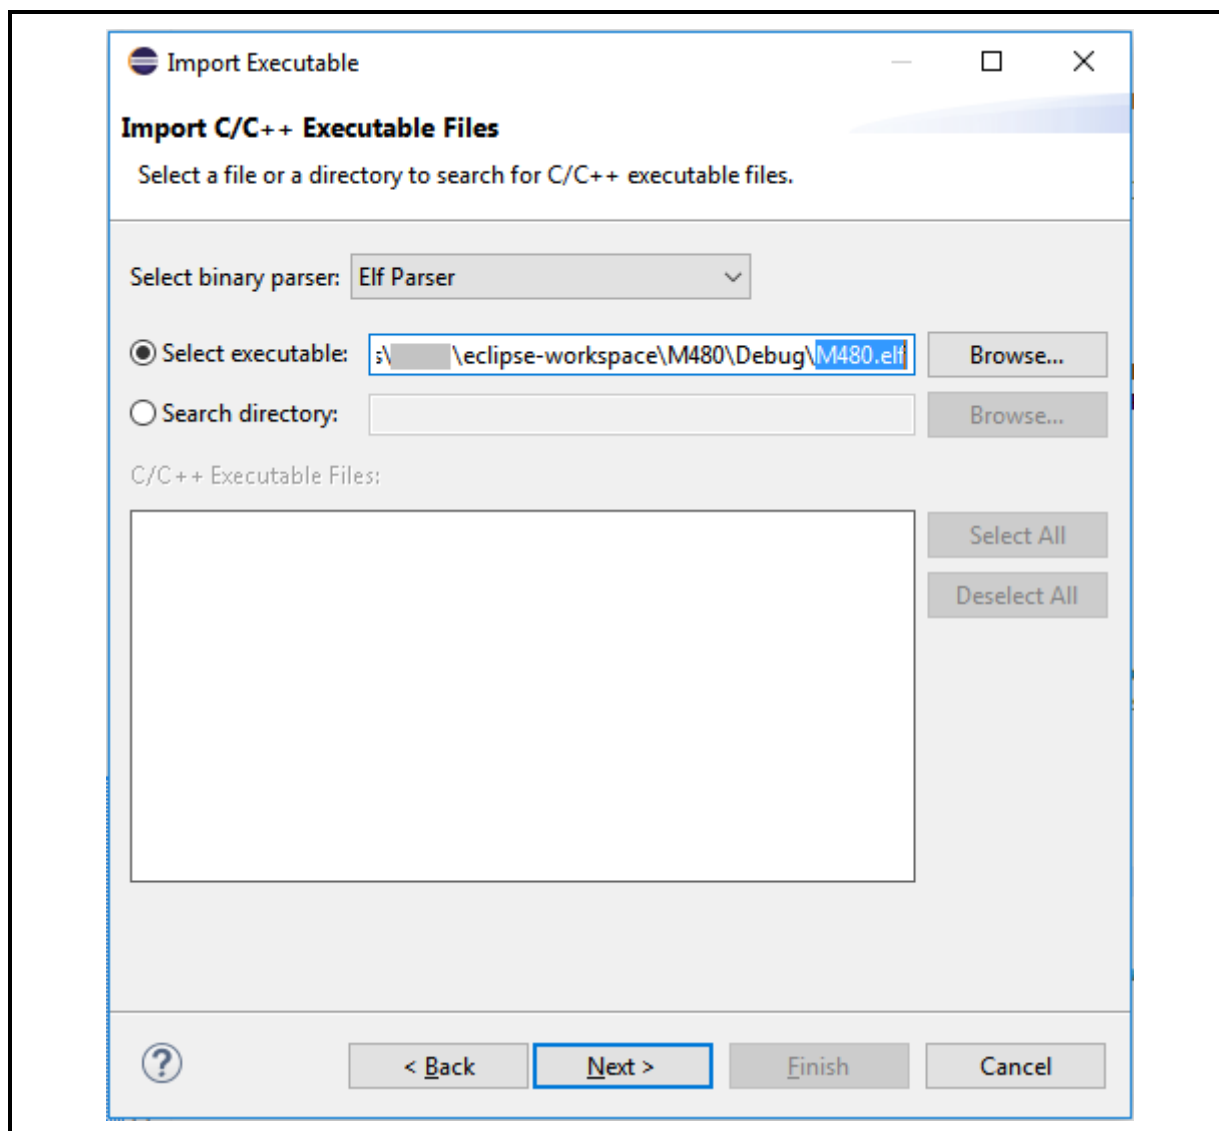

Figure 3-27 Selecting Executable
2. Click Browse following Select executable, then select an executable (referring to Figure 3-27).